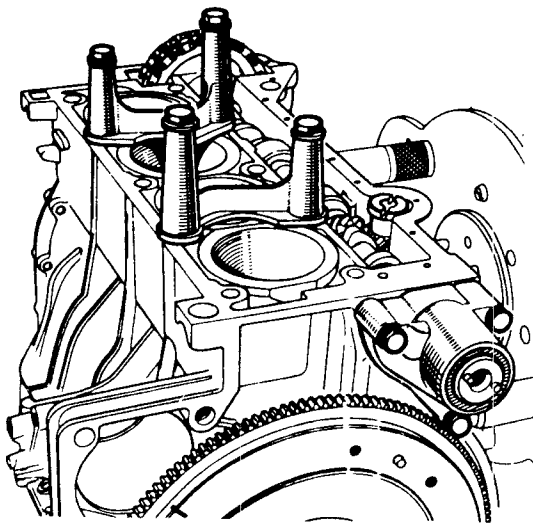

Fig.1.21 Liner clamps in position
- 10 Where further dismantling is not required, liner clamps should be fitted similar to those shown in Fig.1.21, their purpose being to keep the liner bottom seals unbroken during further overhaul operations and decarbonising. Simple clamps may be devised, held in position by temporarily screwing in the cylinder head bolts.
- 2 Refer to Fig.1.21 and withdraw the oil pump/distributor drive from its engagement with the camshaft.